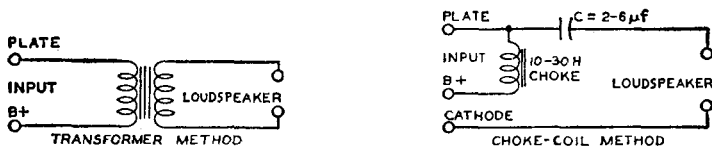

Fig. 76
Output-coupling devices are of two types, (1) choke-capacitor and (2) transformer. The choke-capacitor type includes an iron-core choke with an inductance of not less than 10 henrys which is placed in series with the plate and B-supply. The choke offers a very low resistance to the dc plate current component of the signal voltage but opposes the flow of the fluctuating component. A bypass capacitor of 2 to 6 μf supplies a path to the speaker winding for the signal voltage. The transformer type is constructed with two separate windings, a primary and a secondary wound on an iron core. This construction permits designing each winding to meet the requirements of its position in the circuit. Typical arrangements of each type of coupling device are shown in Fig. 76. Examples of transformers for push-pull stages are shown in several of the circuits given in the **CIRCUIT SECTION**.